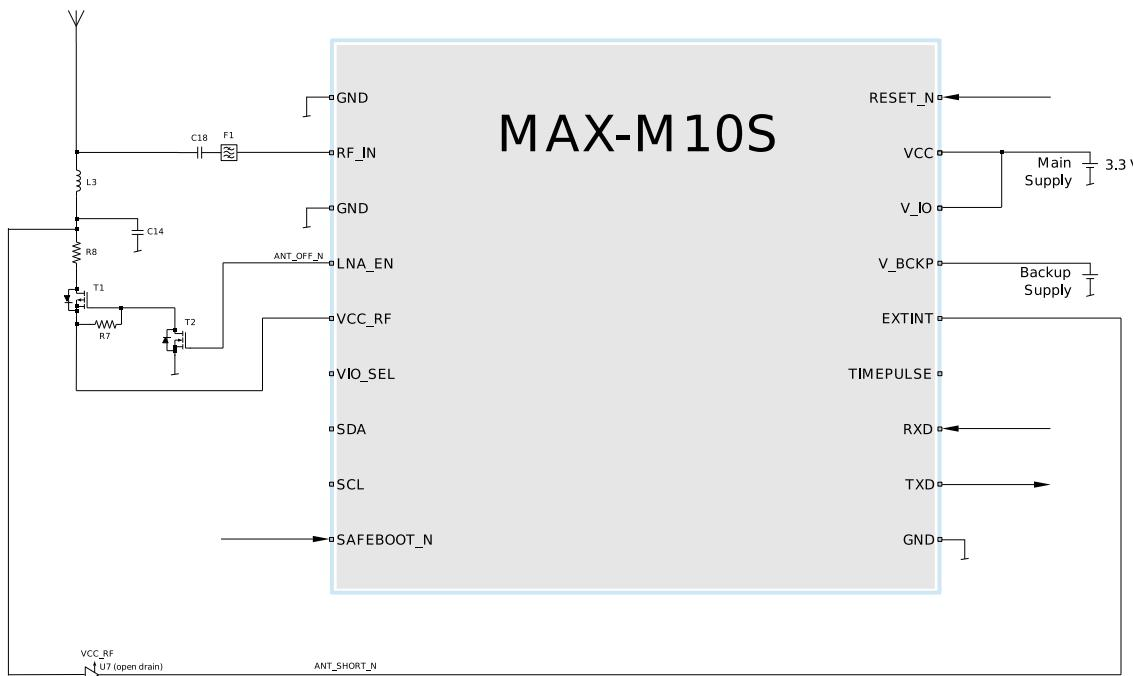
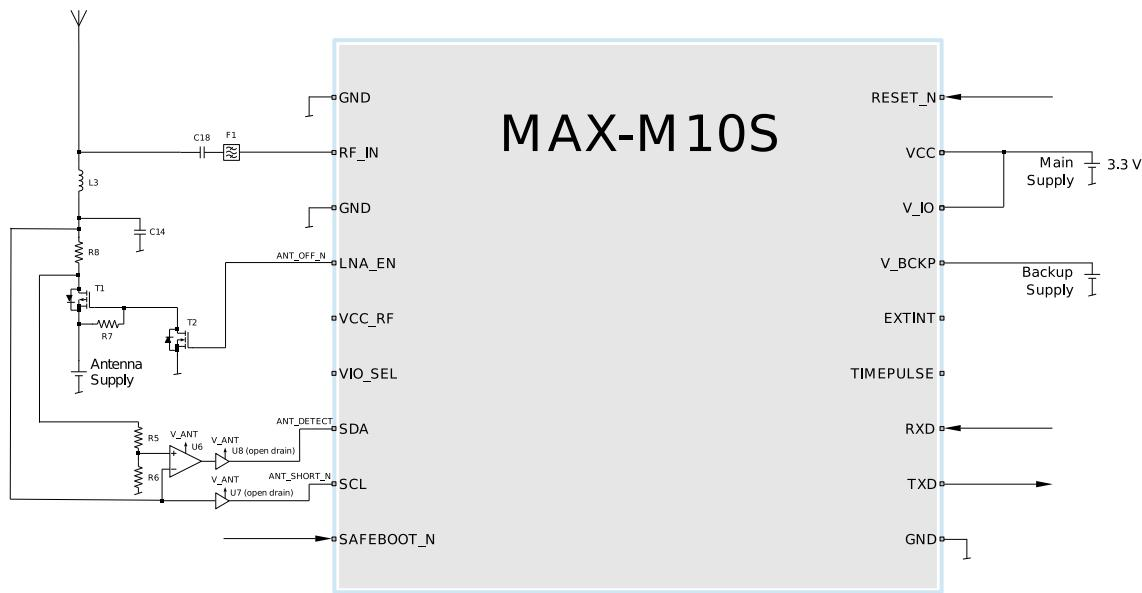

Figure 38: 2-pin antenna supervisor design
Figure 39: 3-pin antenna supervisor design
Migrating from MAX-M8W to MAX-M10S requires special care and may require some re-design because pin 13 and pin 15 are different as shown in Figure 35. Consequently, pin 15 should be left open (i.e. not connected) when migrating from MAX-M8W because there is no built-in antenna supervisor support in MAX-M10S. Therefore in MAX-M10S, the active antenna supply and the antenna supervisor circuitry (if used) needs to be connected externally as shown in Figure 39.
- A passive or active antenna can be used. An active antenna can be supplied either with the VCC_RF output from MAX-M10S, as shown in Figure 38, or from an external supply, as shown in Figure 39. Nevertheless, the internal LNA provides enough gain for passive antennas.
- MAX-M10S has an internal SAW filter and no additional RF front-end components are needed. However, in cellular applications, an external SAW filter can be added in front of RF_IN as shown in Figure 38, which allows an SAW-LNA-SAW RF front-end circuit for improved out-of-band immunity against RF interference from other sources.
Figure 38 and Figure 39 show a reference design for a 2-pin and 3-pin antenna supervisor design respectively. Here are some key features:
- An external SAW filter can be placed on the RF path as shown in Figure 38, which allows an SAW-LNA-SAW RF front-end circuit for improving out-of-band immunity against RF interference from other sources. This is especially useful when MAX-M10S is used in cellular applications.
- UART and I2C communication interfaces are available. I2C PIOs (SDA and SCL) can be used in a 3-pin antenna supervisor design as shown in Figure 39. In this case, the I2C interface needs to be disabled before assigning the new function to the PIOs.
The 2-pin antenna supervisor configuration required for the Figure 38 reference design is listed in Table 35.
The 3-pin antenna supervisor configuration required for the Figure 39 reference design is listed in Table 36.